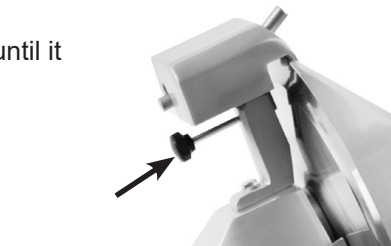

Figure 11-3
7. Remove knife sharpener. Loosen screw on the neck of sharpener, then lift knife sharpener off and away from slicer (Fig. 11-3).